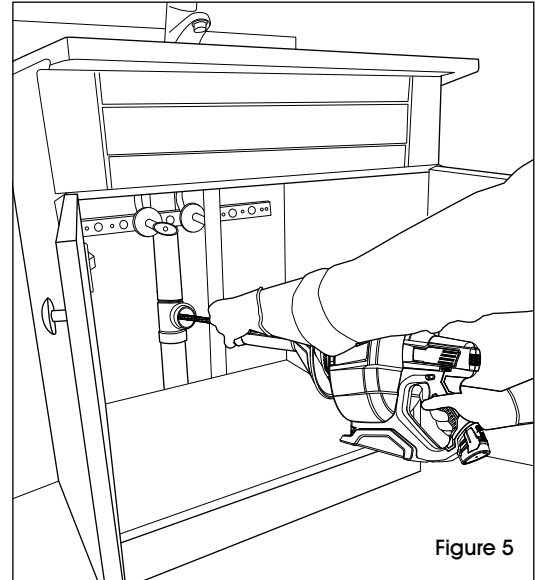

Figure 5
2. Pull at least 18" of the cable from the tool. Insert at least 12" of cable into the drain, placing the drain cleaner no more than 6" from the drain opening. (See Figure 5)